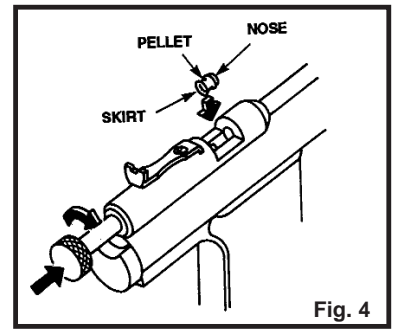

Fig. 4
- With the bolt open, place one pellet, nose first, in to the loading port. (Fig 4)